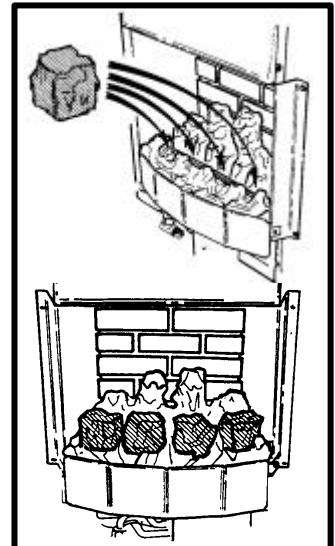

Fig. 29 Front row of coals
10.4.1 Select the two smallest coals and put them aside until all the other coals are installed. Place four of the medium size coals in the four valleys of the front coal. Place the left side coal so that the pilot flame will be visible. (See figure 29).